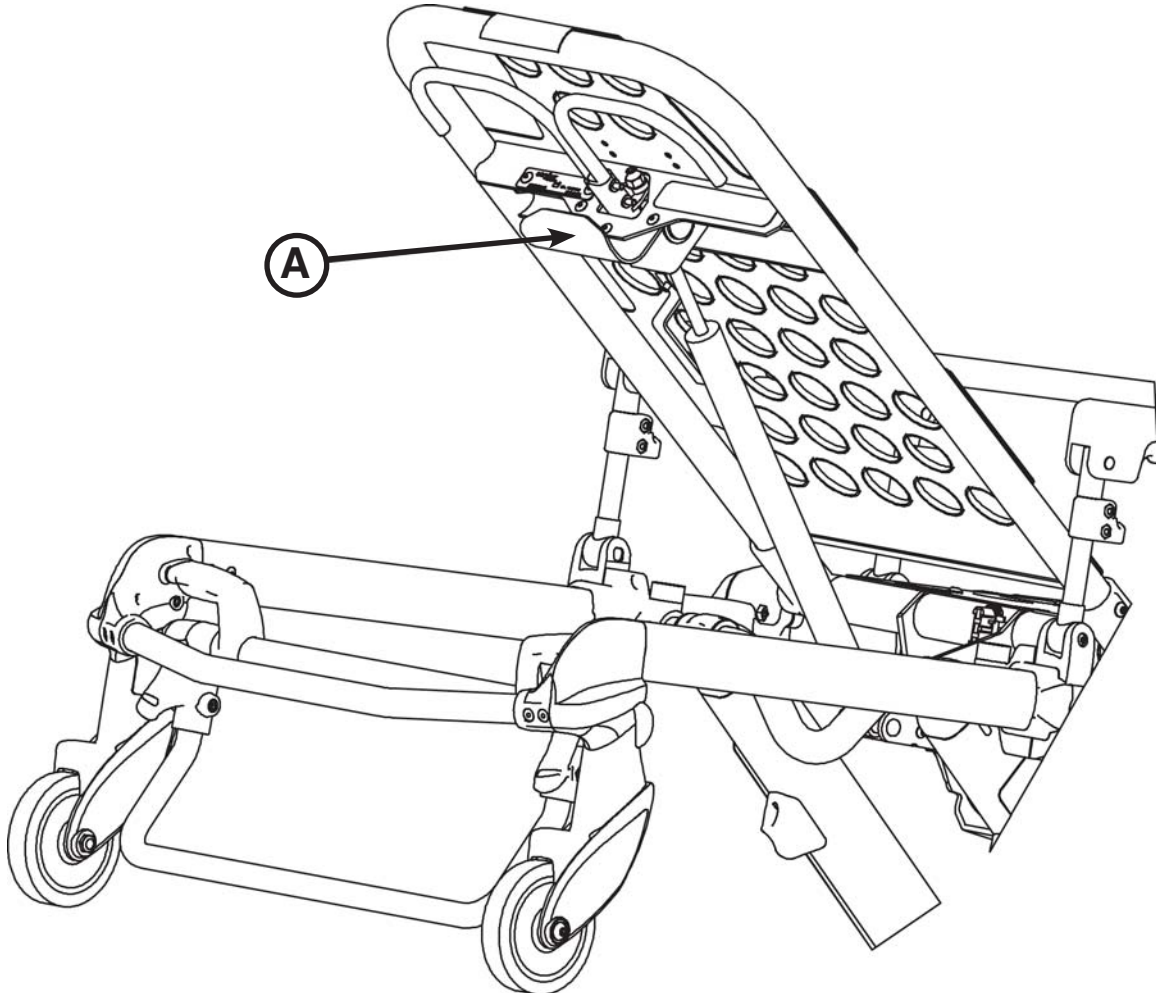

Figure 49: Equipment Hook
Use the equipment hook (A) (see Figure 49) to hang additional accessories or equipment, such as defibrillators or monitors.